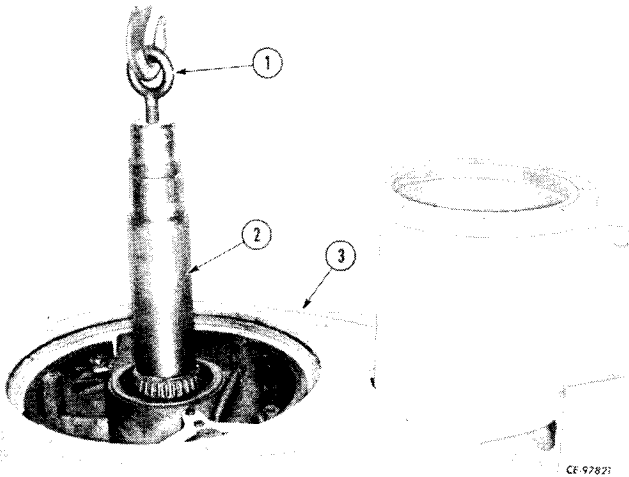

Figure 14-14
Install eye bolt (1, Fig. 14-14) into end of drum shaft (2) and with the aid of an overhead hoist, lift drum shaft from winch housing (3).